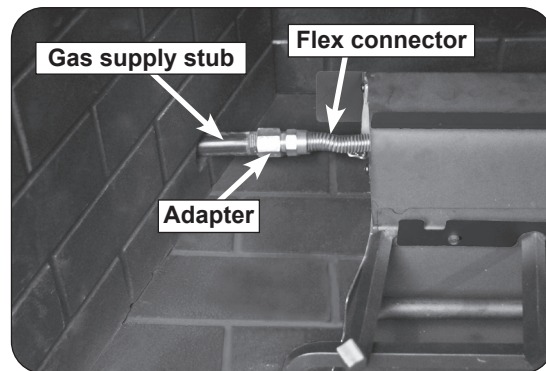

Fig. 15-1 Connect gas supply
2. Locate the gas-supply stub inside the fireplace and remove the cap, if attached (reference Fig. 15-1).
4. **Be sure gas to the fireplace is off.** Remove the adapter connected to the flex connector (pre-installed on the burner system). Attach the adapter to the gas-supply stub using a pipe compound resistant to all gasses. Tighten securely. Then attach the open end of the flex connector to the adapter. Tighten securely (see Fig. 15-1).